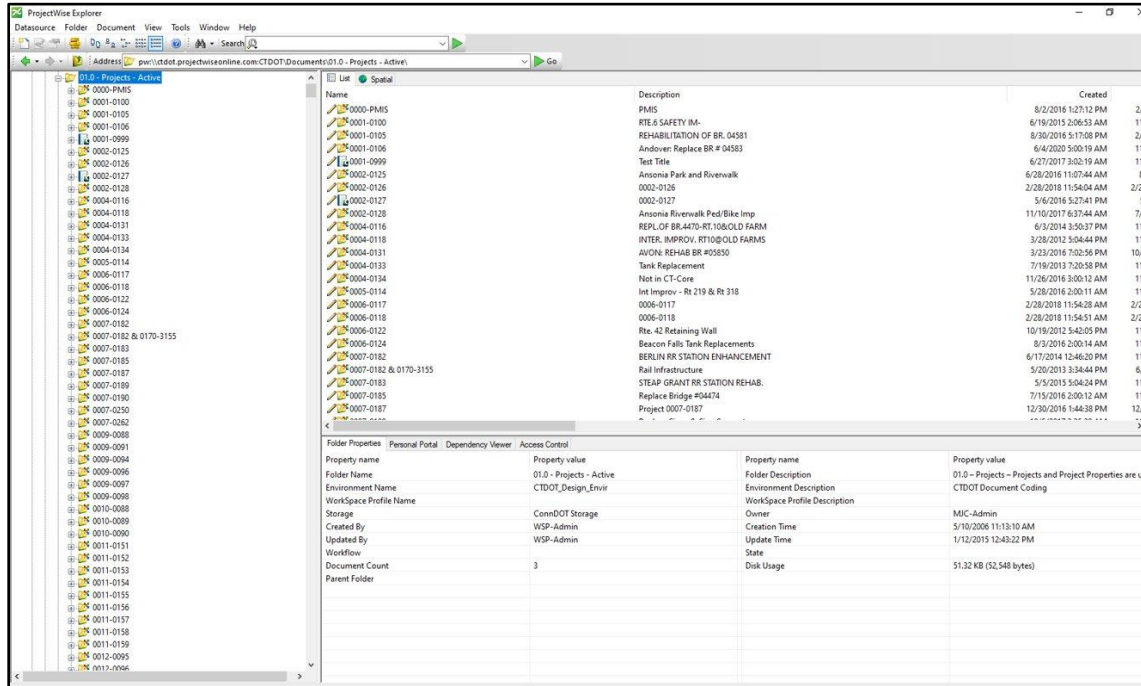

Figure 12. ProjectWise interface.
ProjectWise (PW) Online is the document management system that CTDOT uses for all capital project contract documents (plans, specifications and other contract documents). PW Online is a cloud-based database which can be accessed through CTDOT desktop computers as well as by external users and consultant engineers (Figure 12, below). Along with current design and construction plans, specifications and other contract documents there is a large data set of as-built recorded legacy project plans. These as-built plans can be downloaded and georeferenced to aid in the mapping of MS4 infrastructure as detailed in **Section 4** of this document.